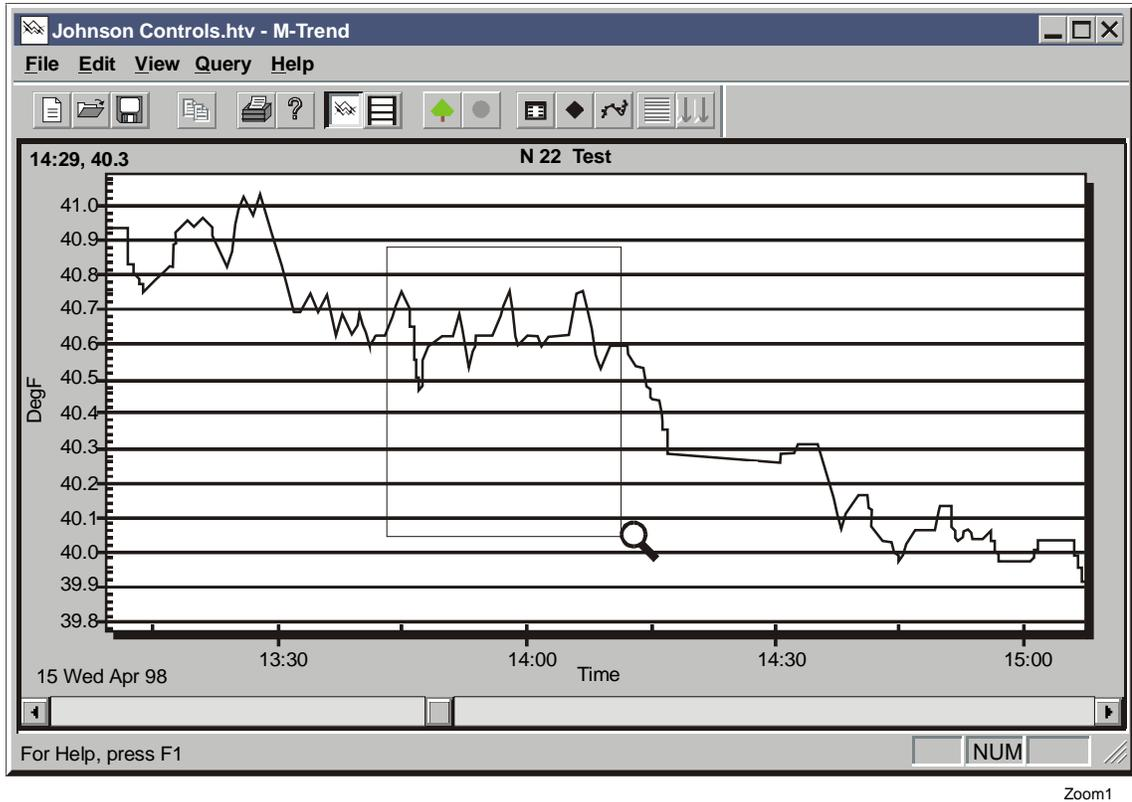

Figure 3-4: Zooming In on a View
2. Drag the mouse to draw a rectangle over the portion of graphic you wish to zoom in on. A magnifying glass cursor appears as you drag out the rectangle. See Figure 3-4.